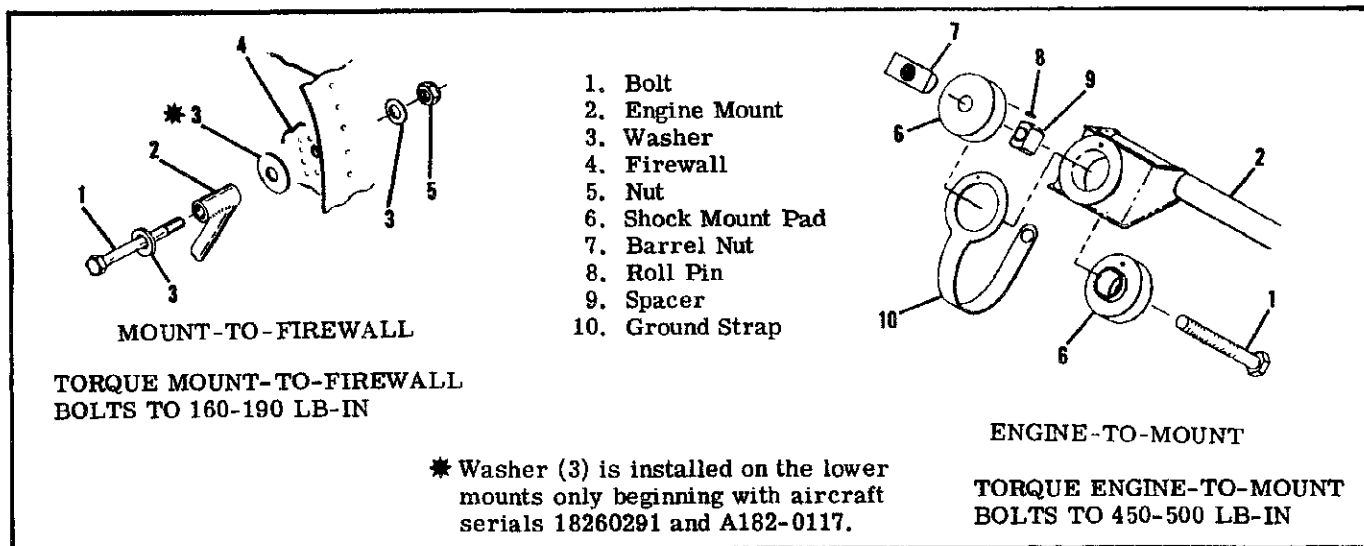

Figure 11-2. Engine Mount Details
b. Install engine shock-mount pads and bonding straps as illustrated in figure 11-2.
11-28. **ENGINE MOUNT.** (Refer to figure 11-2.)
11-32. **ENGINE SHOCK-MOUNT PADS.** (Refer to figure 11-2.) The bonded rubber and metal shock-mounts are designed to reduce transmission of engine vibrations to the airframe. The rubber pads should be wiped clean with a clean dry cloth.